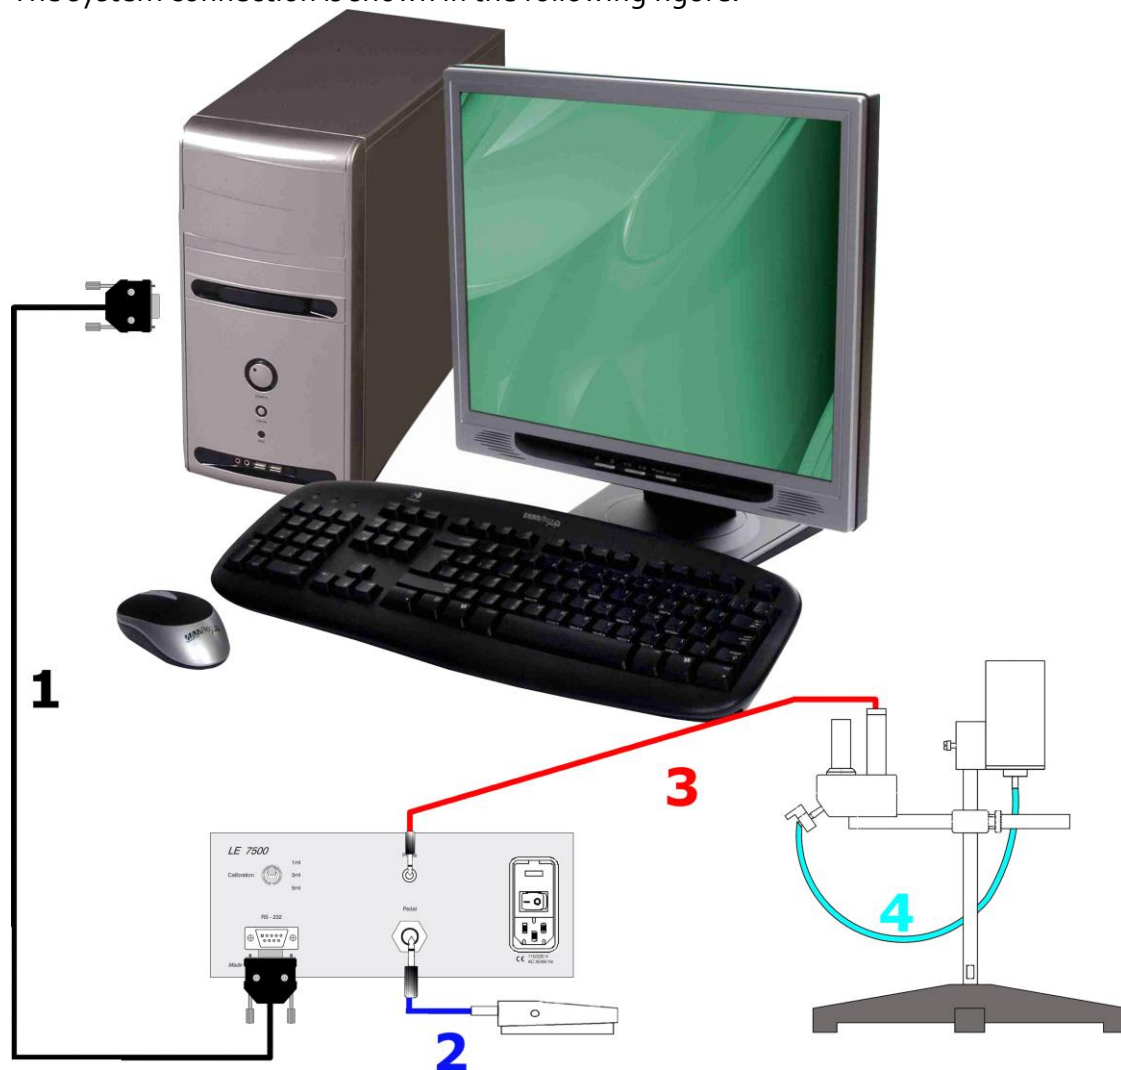

Figure 11. Equipment connection.
- 1) Connect the equipment as shown in Figure 11.